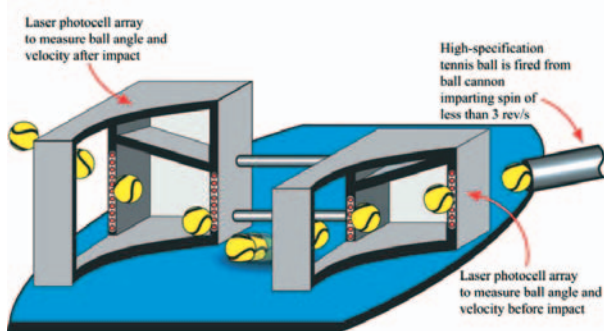

Figure 2. Test apparatus for measuring court pace.
- A means of monitoring the trajectory of the ball before and after impact such that its horizontal and vertical speeds can be measured with a maximum uncertainty of ± 0.05 m/s (see Figure 2).